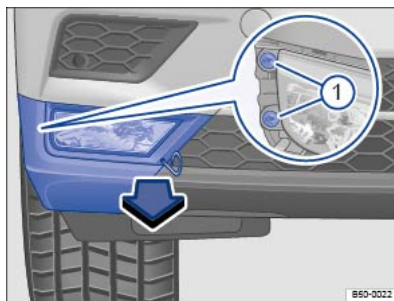

Fig. 205 In the front bumper, right-hand side: remove the fog light.
2. Take the wire hook from the tool kit and insert it in the opening in the cover ⇒ Fig. 205. Pull the cover forwards in the direction of the arrow.
3. Use the screwdriver from the vehicle tool kit to unscrew the securing screw ⇒ Fig. 205 ① ⇒ *Vehicle toolkit*.
11. Use the screwdriver to tighten the securing bolts ⇒ Fig. 205 ①.
12. Replace the cover in the bumper ⇒ Fig. 205.